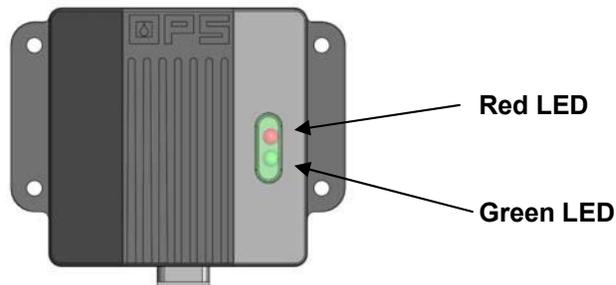

Figure 8: ECU LED's
- Verify power to system; green light on ECU is on steady with the engine running (See Fig 8).